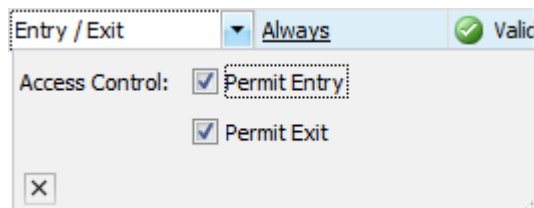

Figure 32
9. Depending on the entity selected in the “What” column, the “Options” column may have a drop-down selection available. *Figure 32* is an example of the Door control options.